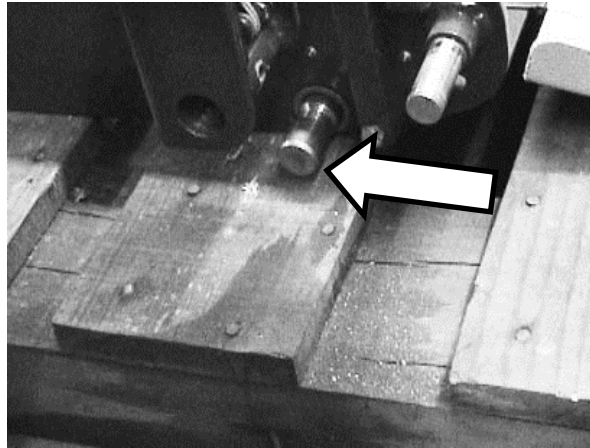

Figure 19. Align Main Shaft with Vertical Arm
4. Refer to **Figure 19**. Use a rubber mallet to drive the main shaft partially through platform. Only drive the main shaft out to the edge of the platform opening.